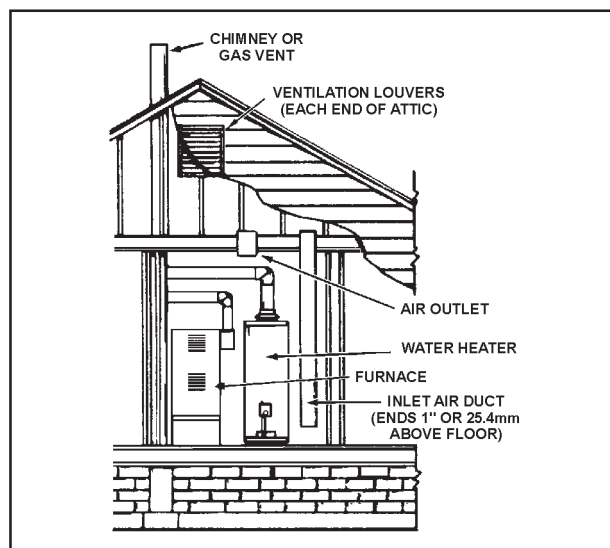

FIGURE 13.
2. When communicating with the outdoors through vertical ducts, each opening must have a minimum free area of 1 square inch per 4,000 Btu per hour ($5.5\text{cm}^2/\text{kW}$) of total input rating of all equipment in the enclosure, see Figure 13.